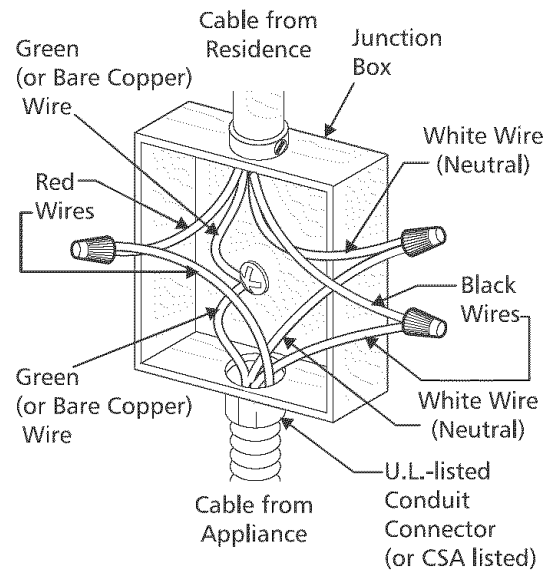

Figure 7 – 4-Wire Electrical System
Where local codes **DO NOT** permit connecting the appliance-grounding conductor to the neutral (white) wire, or if connecting to 4-wire electrical system (see Figure 7):
3. In the circuit breaker, fuse box or junction box: connect appliance and residence cable wires as shown in figure 7.